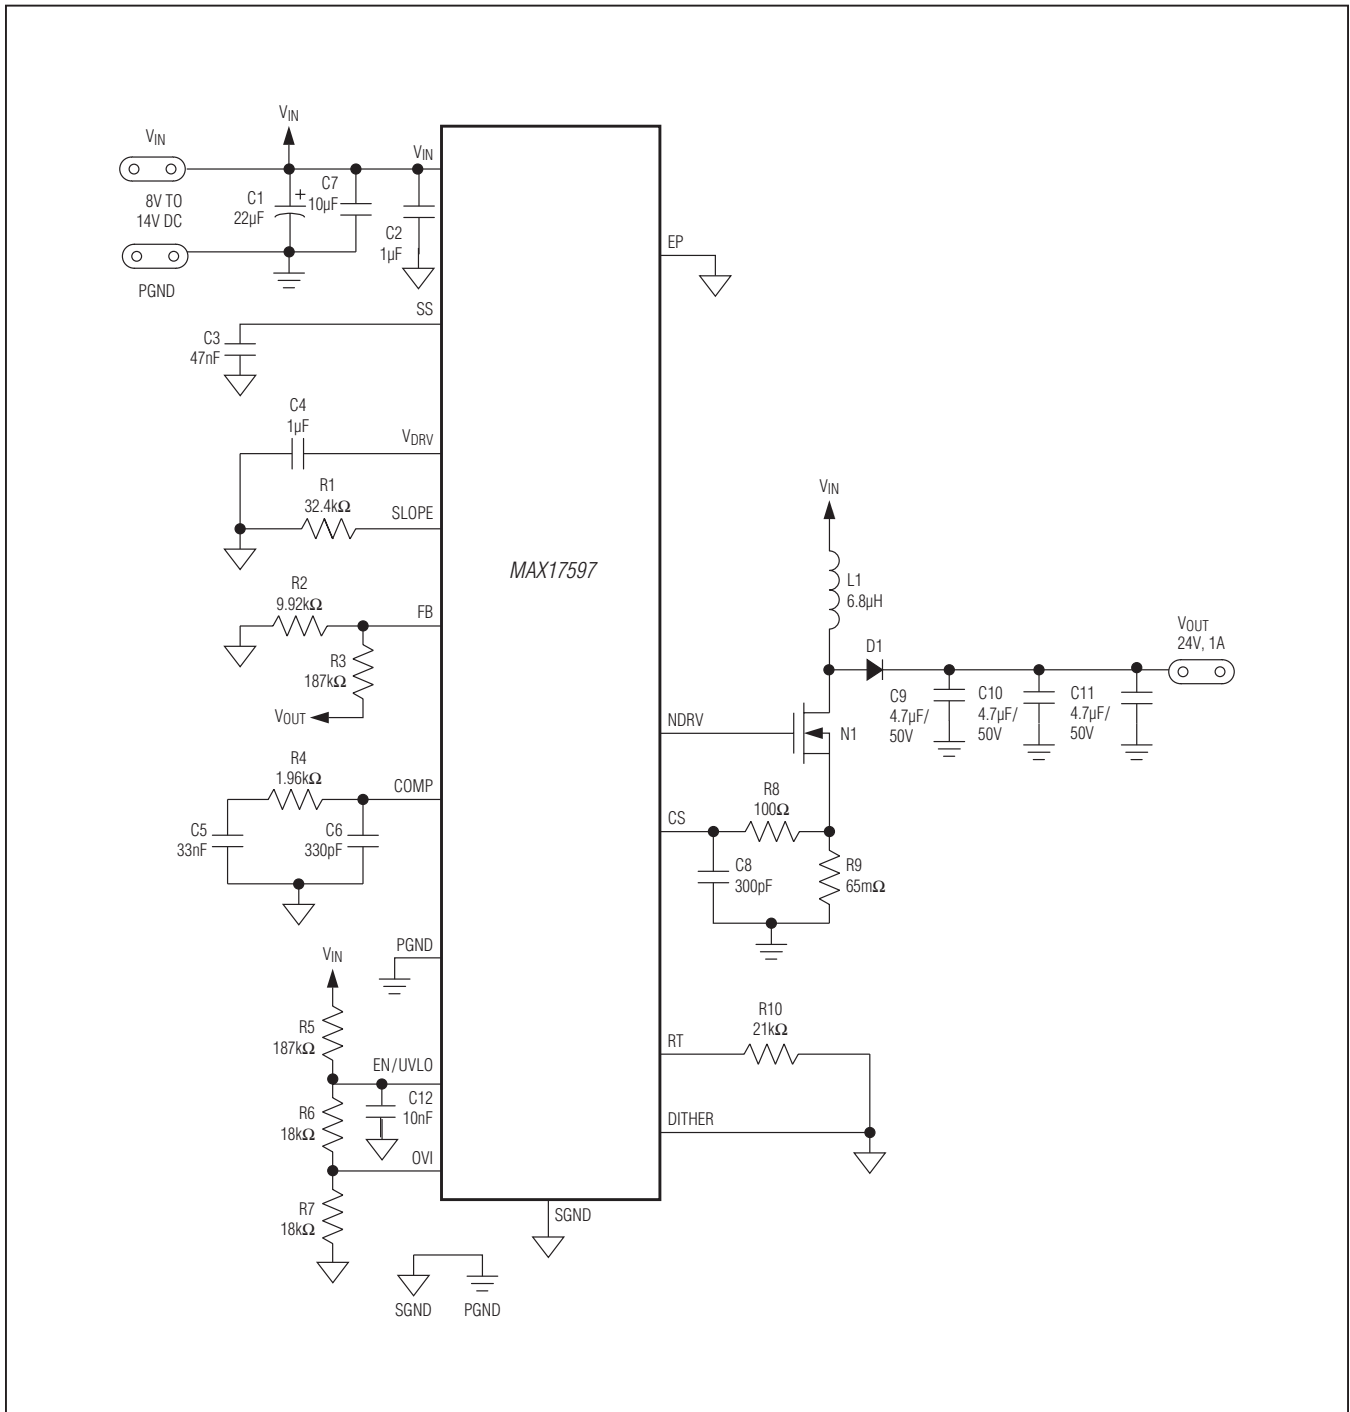

Figure 11. MAX17597 Typical Application Circuit (Nonsynchronous Boost Converter)
where t_{SS} is expressed in ms. This equation is directly applicable to the boost converter application circuit of Figure 11. For optoisolated converters, the soft-start period is approximately equal to 30% of t_{SS} when the
8. The boost converter application circuit of Figure 11 for the MAX17597 uses this approach.